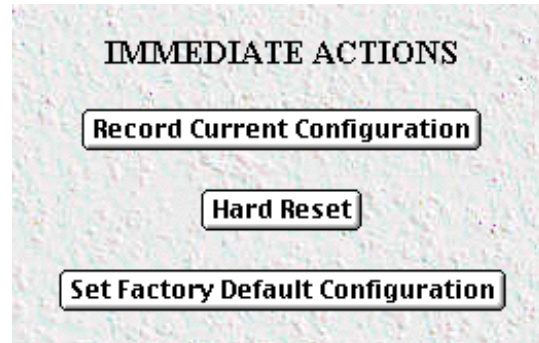

Figure 24. Immediate Actions buttons
- **Record Current Configuration**—clicking on this button (figure 24) causes the current configuration to be stored in FLASH memory. Any changes made to the RAS configuration are stored in non-volatile RAM first. This allows the user to set the box up with a working configuration before committing it to FLASH. Configuration changes become permanent when you select **Record Current Configuration**. You will *lose* all changes *not* stored to FLASH the next time the RAS is re-booted.
- **Hard Reset**—this button (figure 24) causes the RAS to perform a cold restart. When you select **Hard Reset**, the RAS confirms that you want to execute this command. Then, the RAS will disconnect all current sessions, re-initialize the interfaces, and re-load configuration parameters from FLASH.
- **Set Factory Default Configuration**—this button (figure 24) clears out the configuration in FLASH and loads the factory default parameters into FLASH memory. The factory default settings *will not* execute on the RAS until it is re-booted.
Note **Set Factory Default Configuration** (figure 24) will delete any routing information, the RAS's Ethernet IP address, and any other site specific settings made for your particular installation. You will have to re-enter the RAS's Ethernet IP address and netmask using the front panel control port in order to use the HTTP/HTML Management pages.